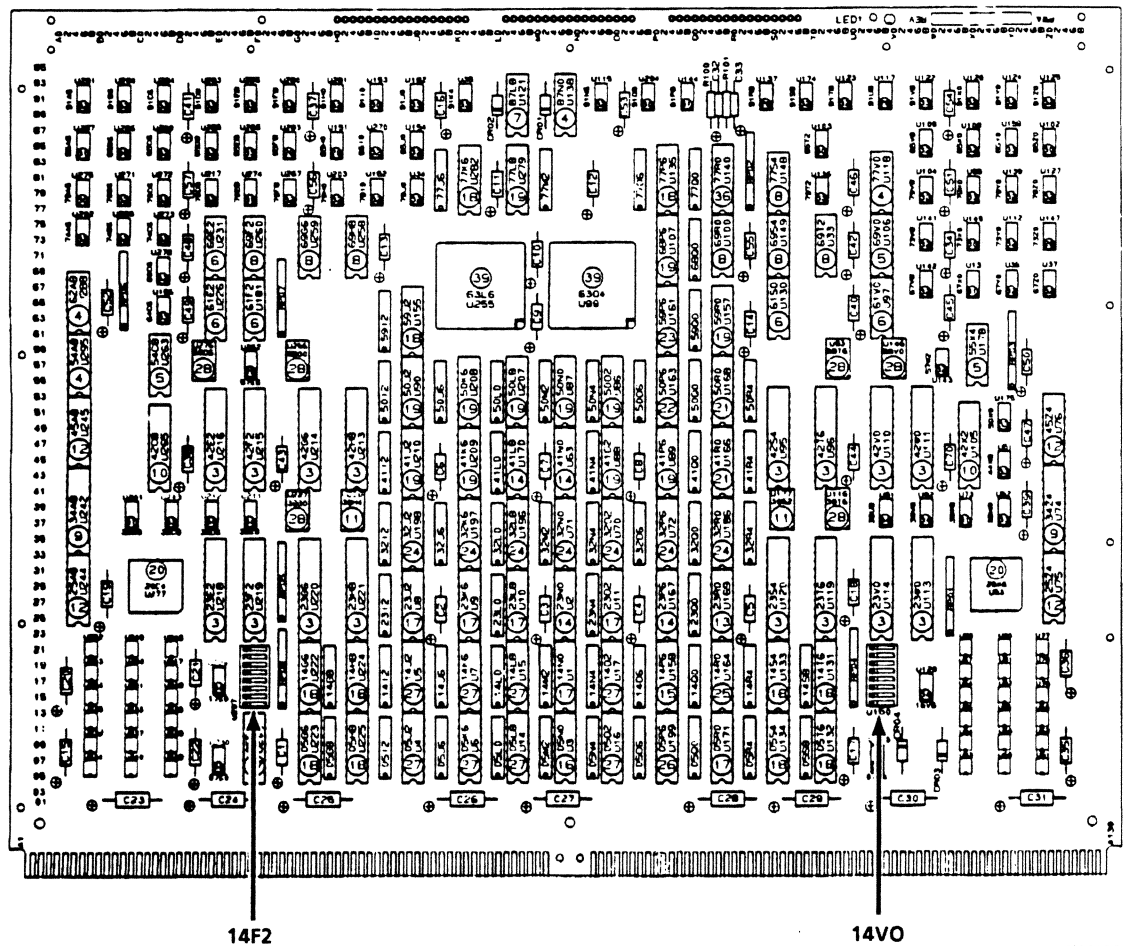

Figure 2-42. 1KLH Module and DIP Switch Location
1. If primary only is being installed, set DIP switches (figure 2-42) on 1KLH module in location B04 as follows: